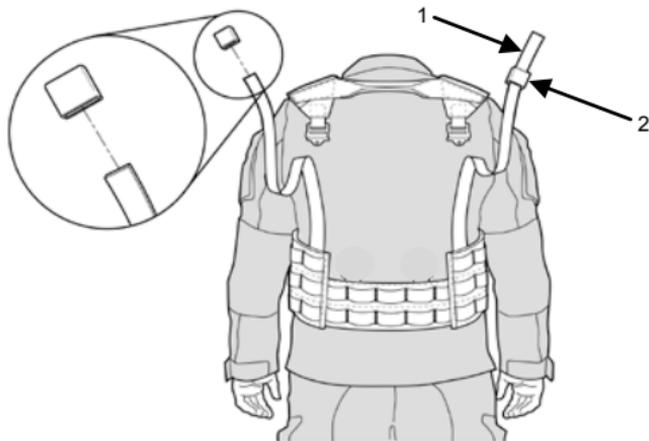

Figure 2. Placement of Elastic Keepers on Webbing.
The buckles are shown for clarity in the illustration (Figure 2). When buckles are properly adjusted for narrow waists, they will be hidden inside the vest panel tunnels.
1. Remove the 1-inch webbing from all four metal friction buckles on the back of the vest. The elastic keeper (Figure 2, Item 2) will be removed when the webbing is removed from the buckle.
2. Place the elastic keeper back on webbing (Figure 2, Item 1).